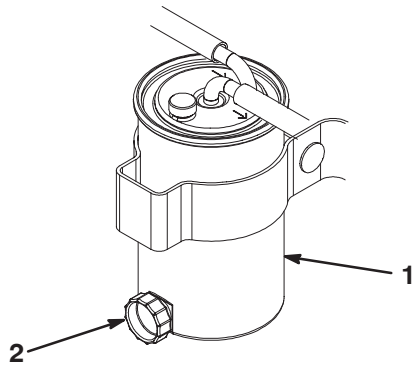

Figure 8
3. Open the drain plug on the fuel filter/water separator approximately one turn and drain any accumulated water (Fig. 8). Tighten the plug after draining.